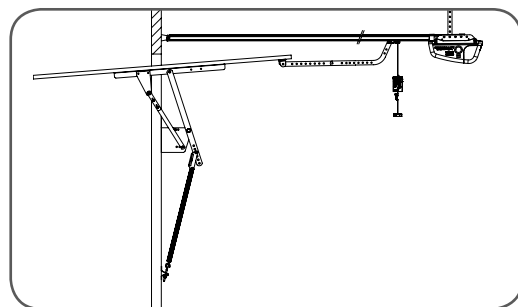

fig 27
- Assemble the bent and straight arms as shown in **Fig. 27** with bolts and nuts supplied in the accessory pack. Always use both the bent and straight arms.